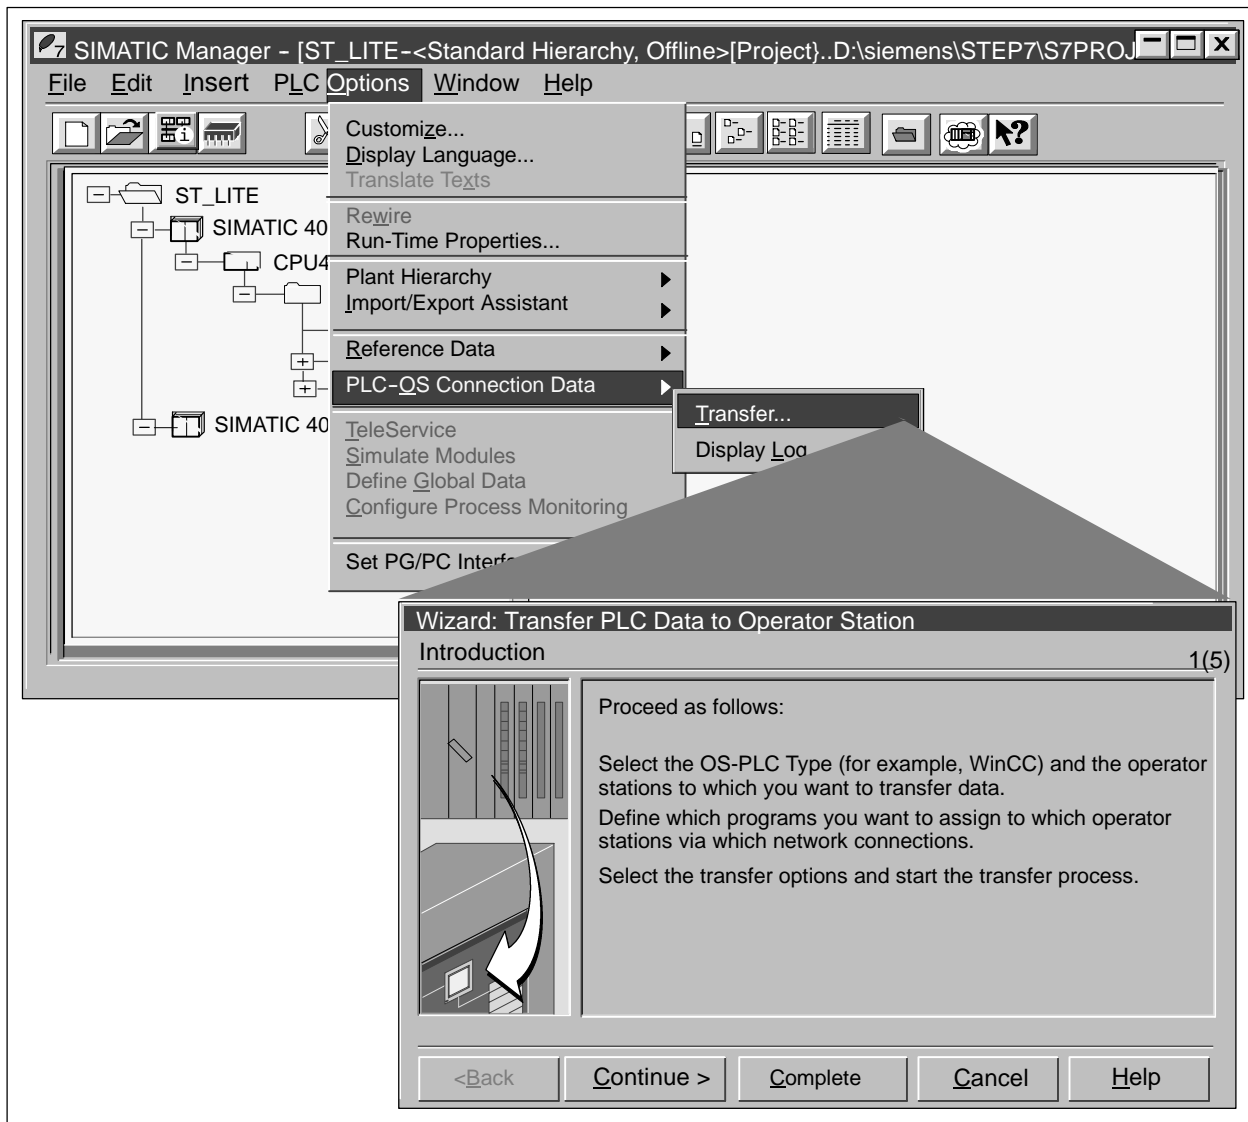

Figure 2-11 Transfer PLC Data to Operator Station
1. From the SIMATIC Manager menu bar, select **Options-> PLC-OS Connection Data->Transfer**. The Transfer PLC Data to Operator Station wizard appears (Figure 2-11).